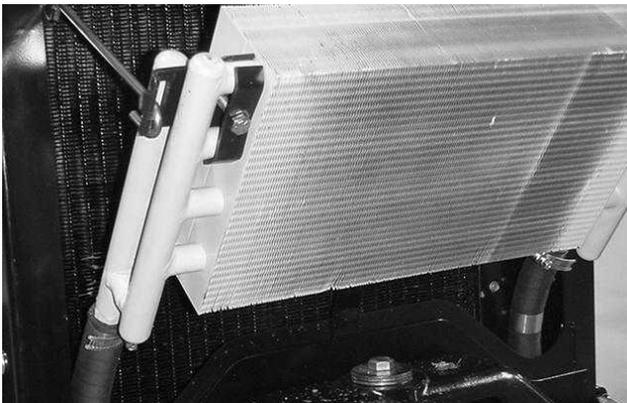

Figure 46
3. Unlatch the oil cooler and pivot it rearward (Fig. 46). Clean both sides of the oil cooler and radiator area thoroughly with water or compressed air. Pivot the oil cooler back into position.